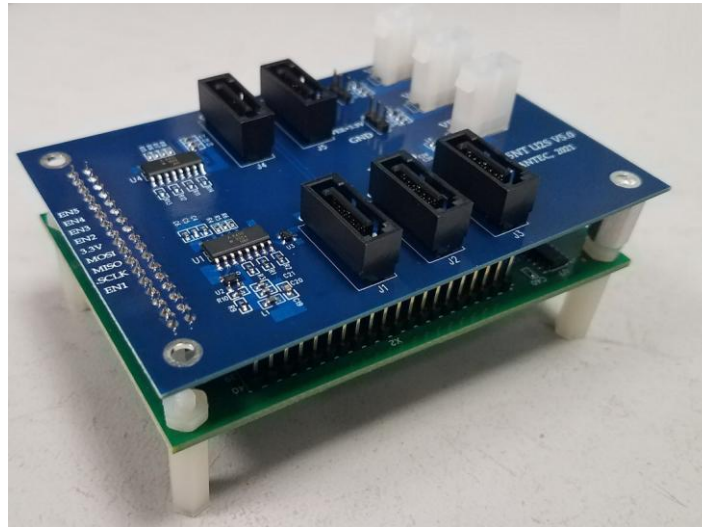

Fig. 4. ASNTu2s PCB v5.0 and Tiger Board Assembly
3. Attach the ASNTu2s PCB v5.0 to the Tiger Board as shown in Fig. 4.